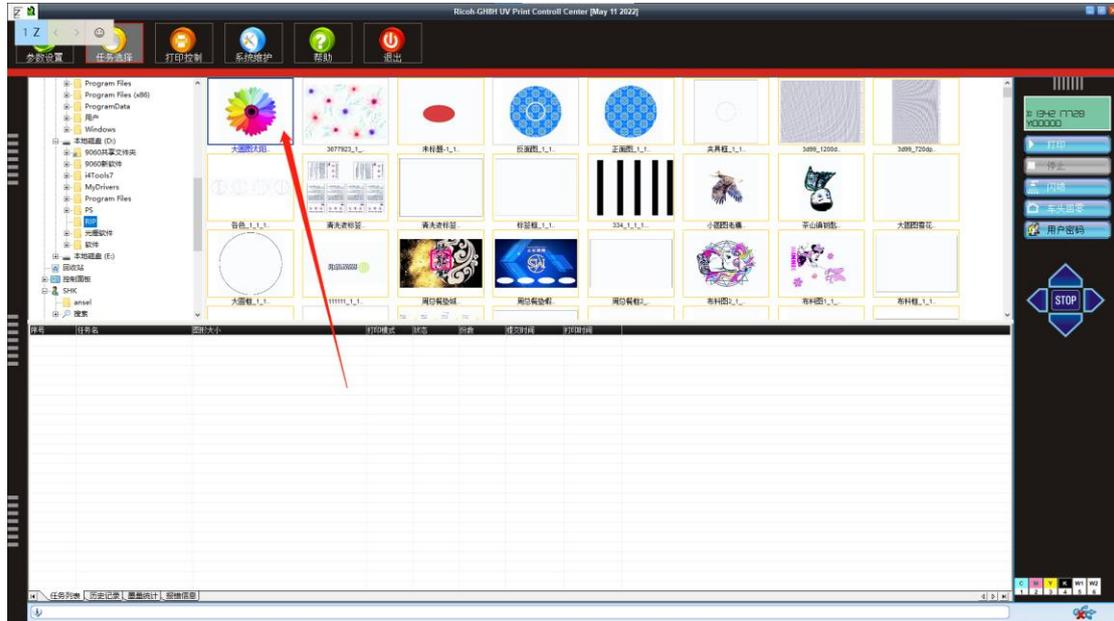

Figure 1 Import pictures
2. Load the picture: find the saved directory of the picture, click the directory with the left mouse button will automatically load, and take the picture to the right, as shown in Figure 1, import the picture, if not loaded, you can right-click to refresh